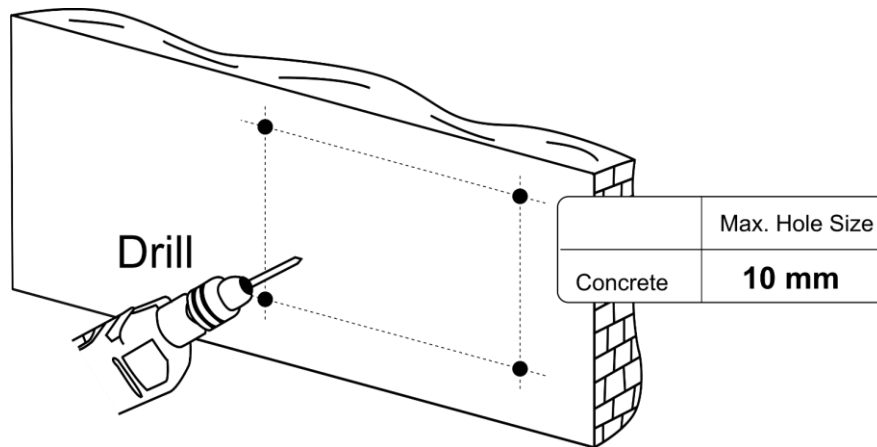

Fig. 16
- 03) Drill pilot holes at the 4 marked locations, as shown in Fig. 16–19.